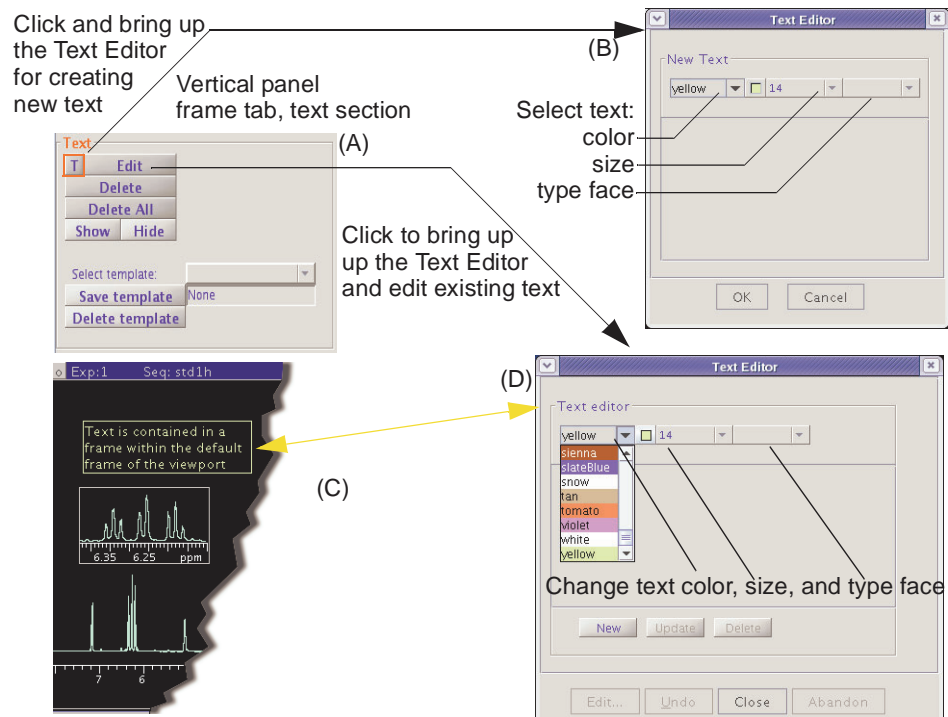

Figure 79. Text Panel Controls and Text Editor
Text is placed into a text frame within the default frame of the active viewport using the text insert tools, see Figure 79. Select, move and resize in the same way as an inset or default spectrum frame. The content of each text frame is defined by a file.
2. Click on the **Text** tab, see Figure 79(A).
3. Click on the **T** button, see Figure 79(A).
4. The Text Edit window, see Figure 79(B), appears.
1. **Double click** inside the frame to make the frame active; see Figure 79\(C\).
2. Click on the **Text** tab; see Figure 79\(A\).
The Edit Text window is displayed; see Figure 79\(D\).
1. **Double click** inside the frame to make the frame active, see Figure 79\(C\).
The Edit Text window is displayed, see Figure 79\(D\).